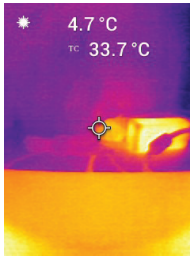

Figure 5.4 Thermocouple temperature readout (33.7°C, in this example)
3. Touch the thermocouple probe tip to the surface under test or hold it in air. Read the temperature value on the display next to the 'TC' label, see **Figure 5-4**.